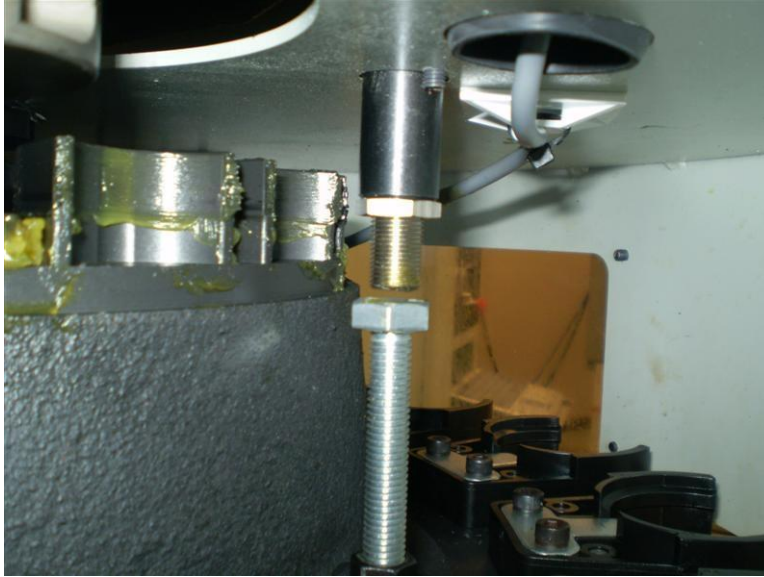

Figure 6.16.2c
17. Install the home proximity sensor (16) into the shroud and secure with two M5 BHCS
18. The air gap between the home proximity sensor (16) and home position stud should be approximately 0.100" as shown in figure 6.16.2c. Check that the LED light comes on when set.